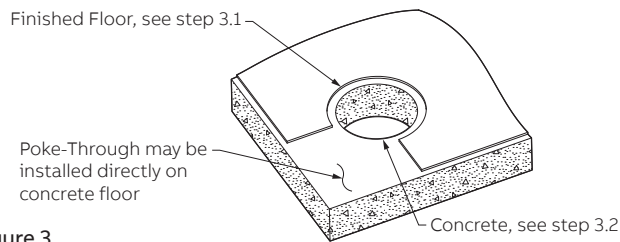

Figure 3
3.2 Core Drill a 6" Diameter Hole. Actual hole size may be up to 6 3/8" diameter due to drill bit and job site construction tolerance (see Figure 3).